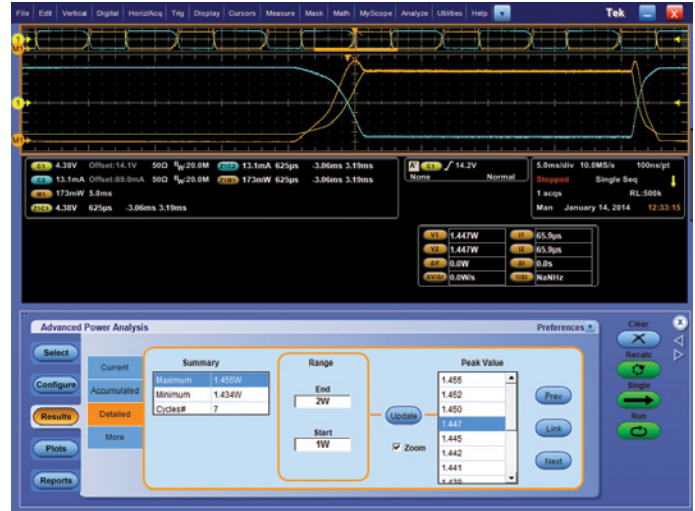

Figure 10. Switch Finder results tab displaying energy loss.
- Switch Finder Tab: This tab displays the energy loss at the cursor point as shown in Figure 10